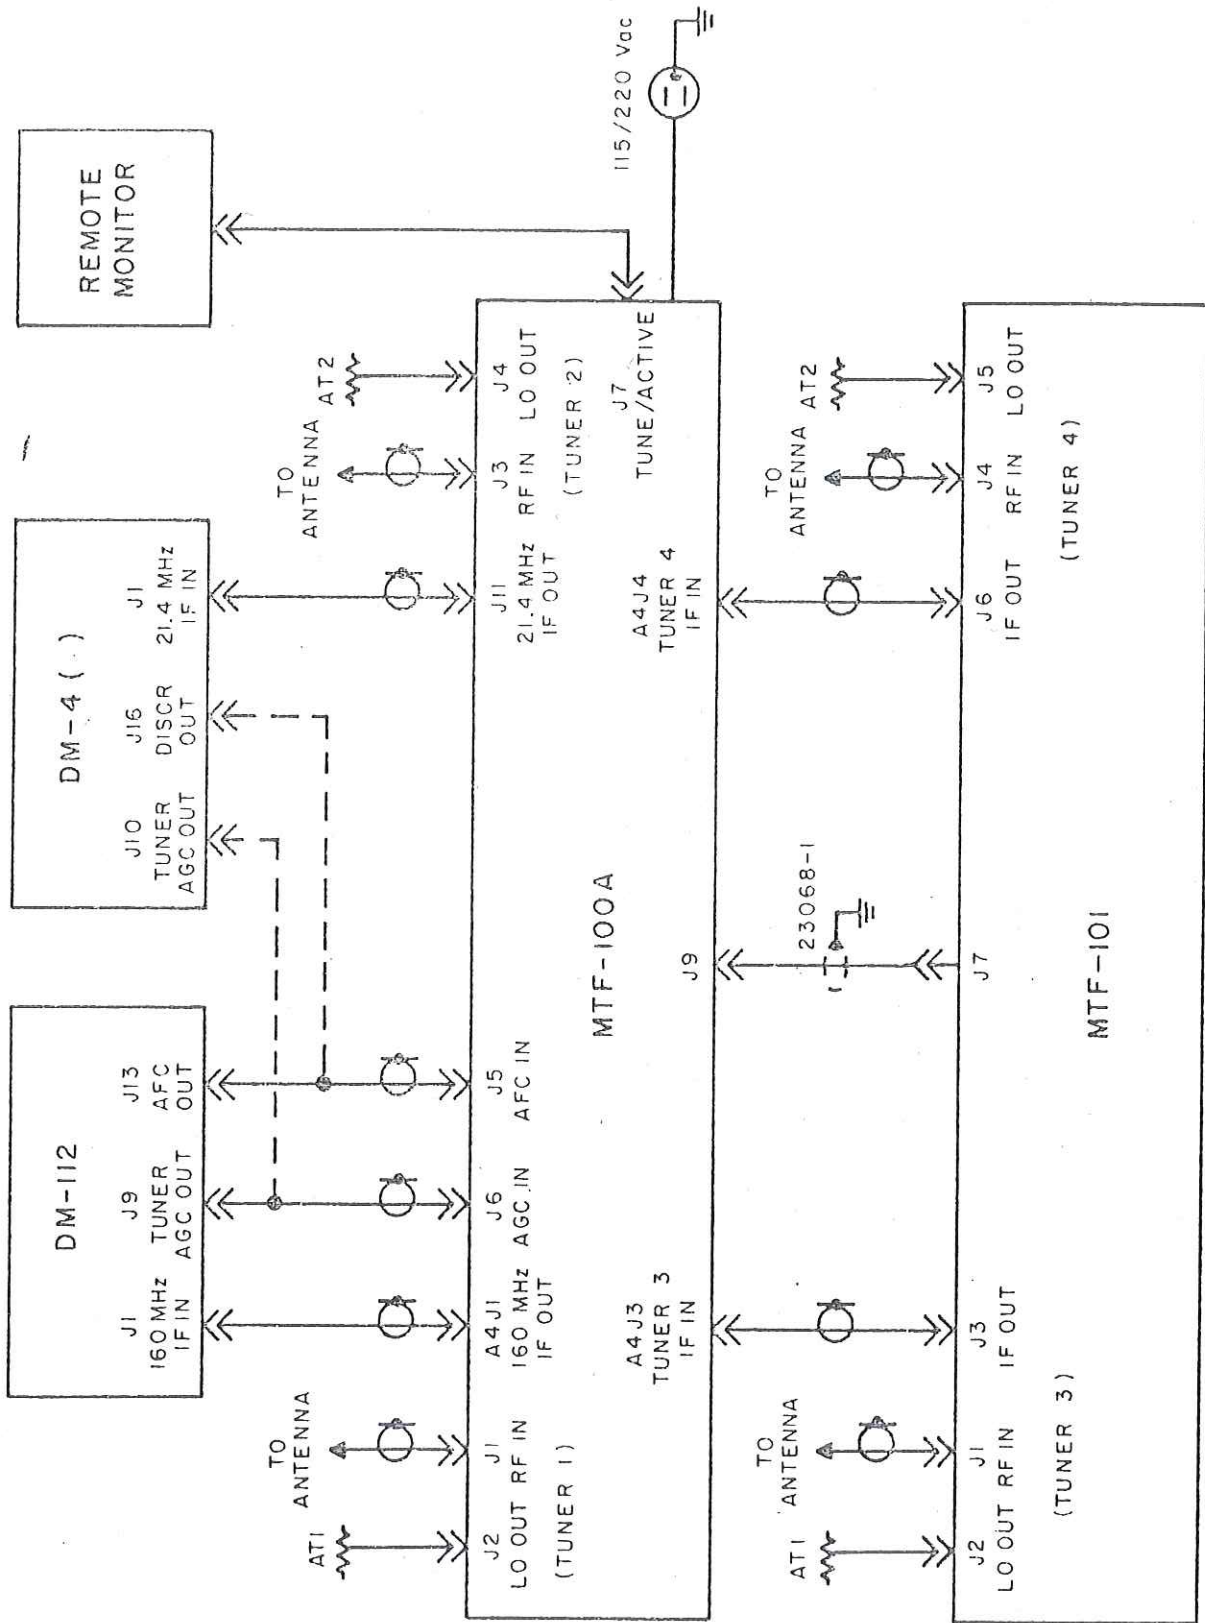

Figure 3-2. MTF-100A/-101 Interconnecting System Wiring
3.2.6 MTF-100A Input and Output Connections. - The system wiring for the MTF-100A and MTF-101 is shown in Figure 3-2. Installation of system interconnecting cables is described in the procedure below. If the MTF-100A is used without the MTF-101 disregard the last two steps of this procedure, 3.2.6.8 and 3.2.6.9.
nection. Figure 3-2 shows the connections if a DM-112 or DM-4 () demodulator is used.
3.2.7 MTF-101 Input and Output Connections. - Refer to Figure 3-2 and proceed as follows: